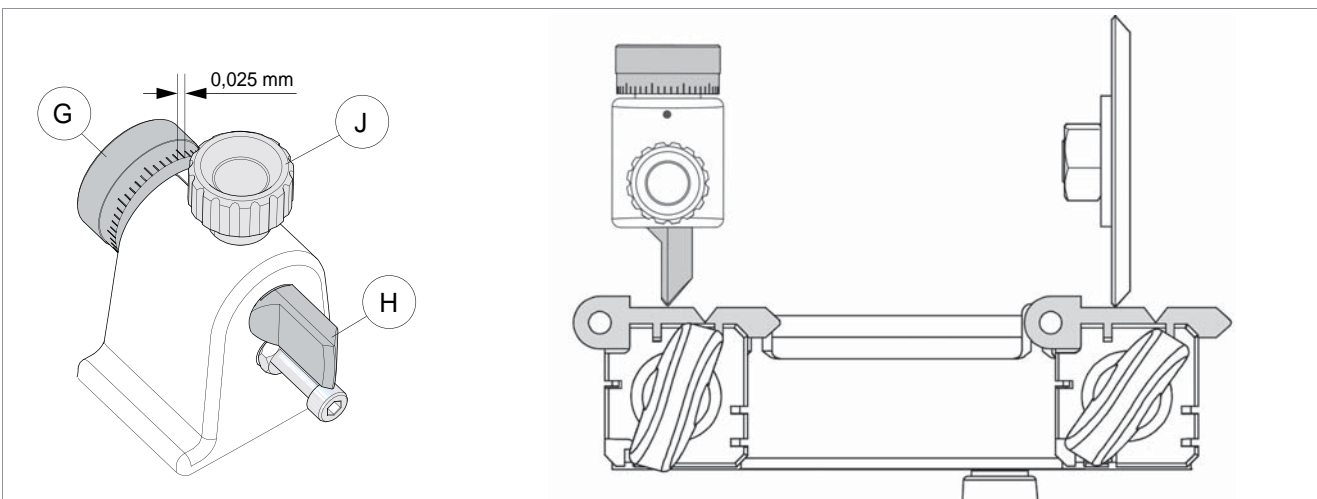
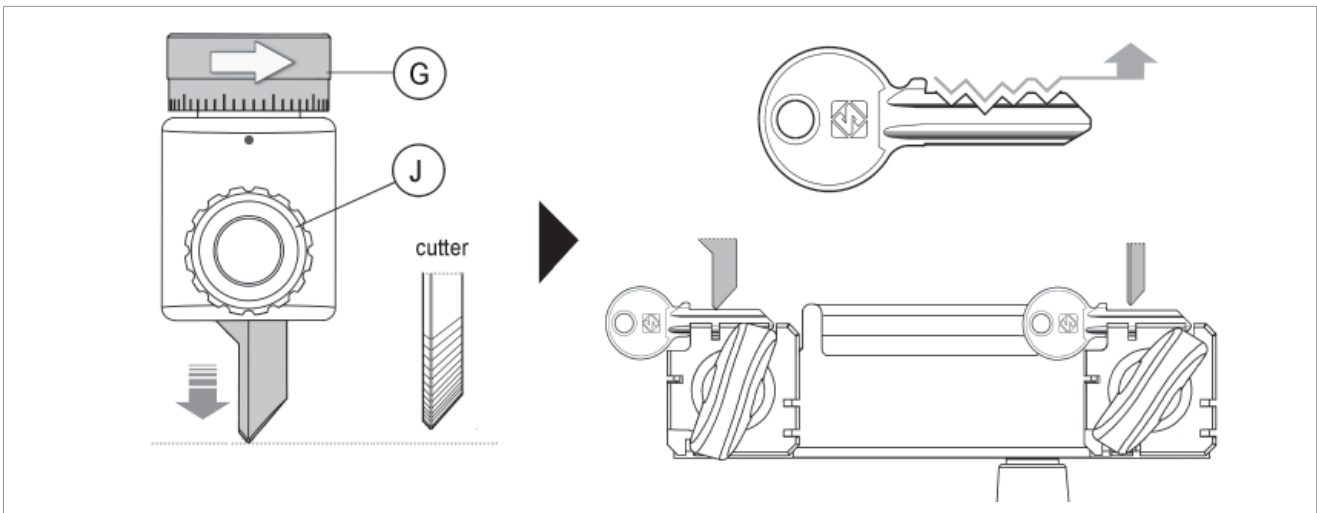

Fig. 17
Fig. 18
- 7) Move the keys into contact with the cutting tool and tracer point (Fig. 17).
- a) loosen the tracer point locking knob (J).
- b) turn the ring nut (G) clockwise to advance the tracer point (shallower cuts) (Fig. 18).
NOTE: each notch on the centesimal ring corresponds to 0,025 mm (.00098") (Fig. 17).